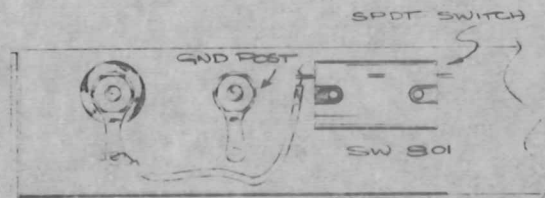

Fig. 1
- () 4. Mount the switch (from kit) in this hole, using the flat washer and the 12-sided switch nut from the kit (see Fig. 1).
- () 5. Unsolder the white wire connected to CSC-1; pull through the grommet and solder to the left terminal (viewed from front) of the CRT CATHODE SELECTOR switch (see Figs. 1 and 2).
- () 6. Solder the 7 in. white wire (from kit) between CSC-1 (see Figs. 1 and 2) and the center terminal of the CRT CATHODE SELECTOR switch.